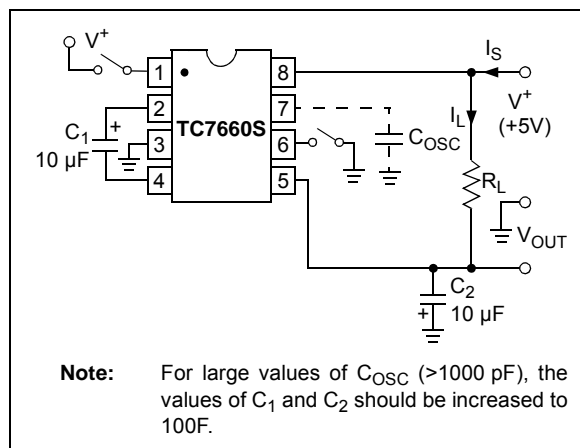

FIGURE 4-1: TC7660S Test Circuit.
**Electrical Characteristics:** Unless otherwise noted, specifications measured over operating temperature range with  $V^+ = 5V$ ,  $C_{OSC} = 0$ , refer to test circuit in Figure 4-1.
**Note:** Unless otherwise indicated,  $C_1 = C_2 = 10 \mu\text{F}$ ,  $\text{ESR}_{C1} = \text{ESR}_{C2} = 1 \Omega$ ,  $T_A = 25^\circ\text{C}$ . See Figure 4-1.